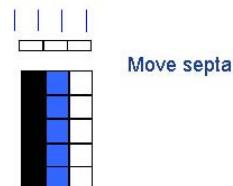
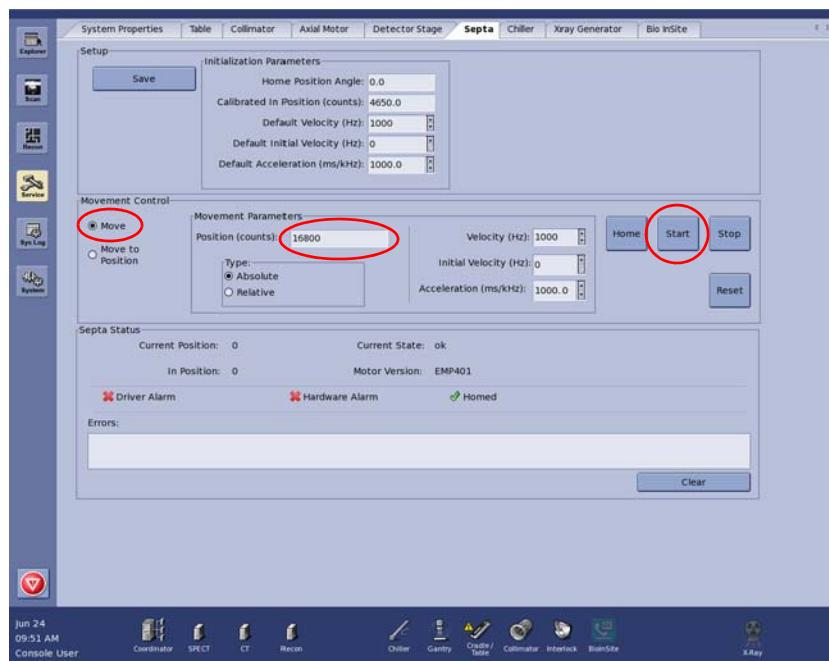

Figure 7-20
Figure 7-21
- 5.) As shown in Figure 7-20, septa misalignment with the pixel rows will cause illumination of adjacent rows (white = maximum, black=minimum). If symmetry in the previous step cannot be obtained, step the septa by adjusting the Movement Parameters / Position (counts) value in Figure 7-21. First, send the septa to its Home position, and increment the position count by 50 to 16850. Hit Start and examine the Profile.